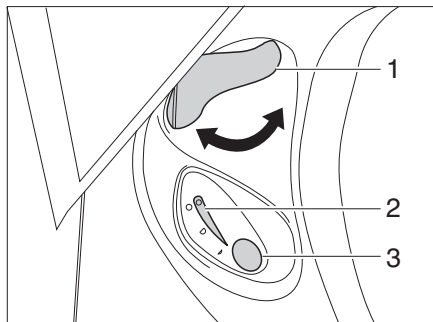

Fig. 162 Operating unit Thetford toilet
- After flushing close the sliding trap. To do this turn the slide lever (Bild 162,1) clockwise.
- Before flushing open the sliding trap of the Thetford toilet. To do this, turn the slide lever (Bild 162,1) anticlockwise.
- For flushing, press the blue flush button (Bild 162,3).
The indicator lamp (Bild 162,2) goes on whenever the Thetford cassette has to be emptied.
- Turn the slide lever (Bild 162,1) clockwise. The sliding trap is closed. To empty, the sliding trap in the Thetford toilet **must** be closed.